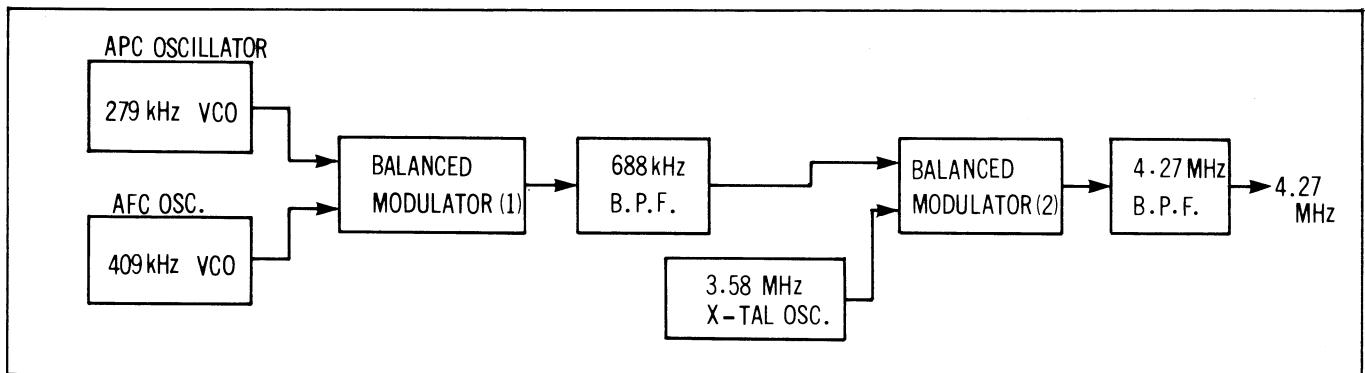

Figure 2-117
As shown in Fig. 2-117, the APC oscillator generates 279 kHz. The AFC oscillator when not being controlled generates 409 kHz. These signals are fed to the two inputs of Balanced Modulator (1), and the output is the sum and difference of the input frequencies. In this case the sum frequency is desired (688 kHz), which is extracted by a 688 kHz band pass filter.